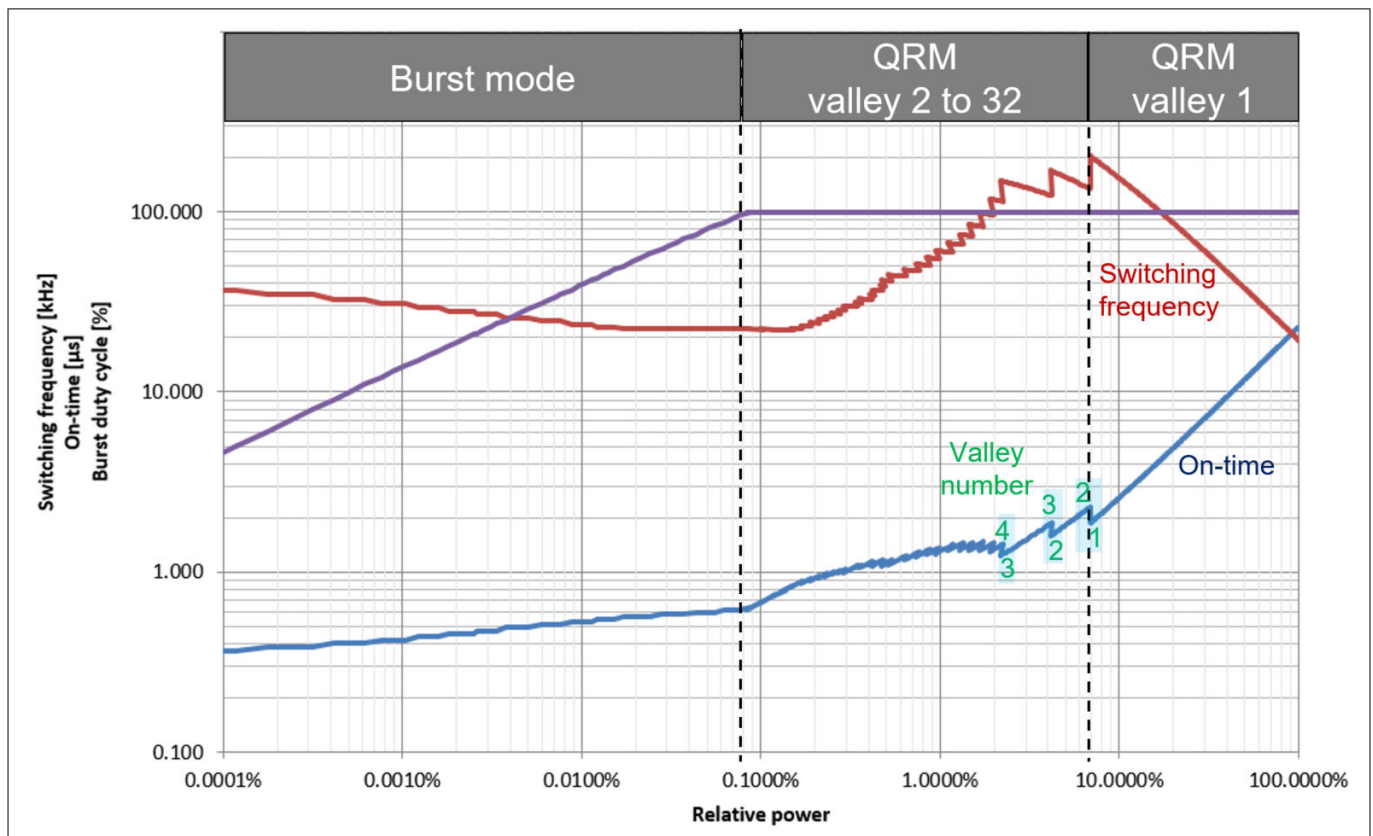

Figure 10 Exemplary switching characteristics versus relative power, with on-time compensation for valley changing
Figure 10 areas highlighted in blue show the on-time compensation effect (in zig-zag pattern) when, for example, the QRM valley number is increased from 1 to 2, from 2 to 3, and from 3 to 4. When the relative power is further decreased, the on-time compensation continues at higher valley changing position (in smaller zig-zag), until it reaches the maximum valley number of 32. To ensure the QRM switching frequency reduction stays above the audible range, the QRM off-time is limited to a maximum value of t_{off} (47 μ s typ.).
- the system-dependent on-time compensation effect for valley number change (see Figure 10)